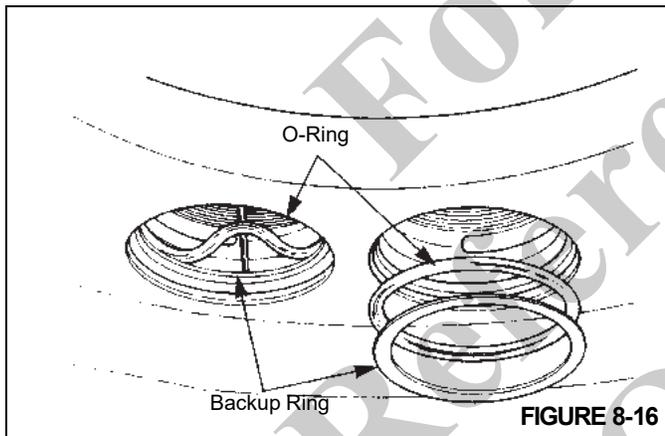

FIGURE 8-16
10. Remove and discard the O-ring and the backup rings. Refer to Figure 8-16.